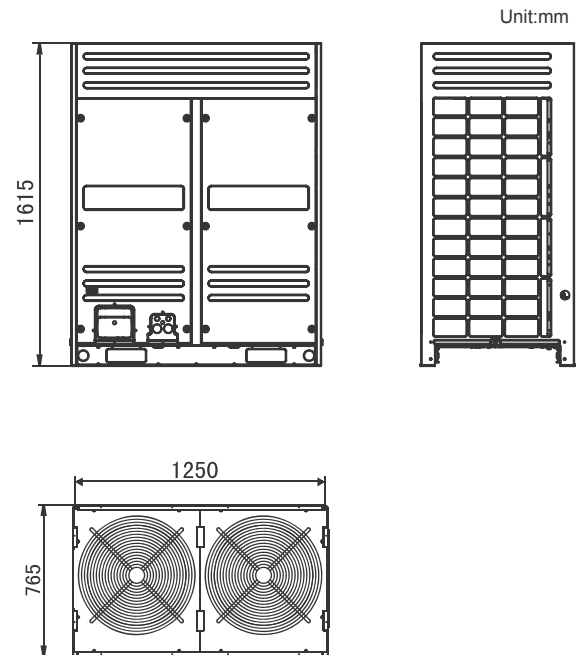

Fig.4-1
- Ensure enough space for maintenance. The modules in the same system must be on the same height.(see the Fig.4-1)